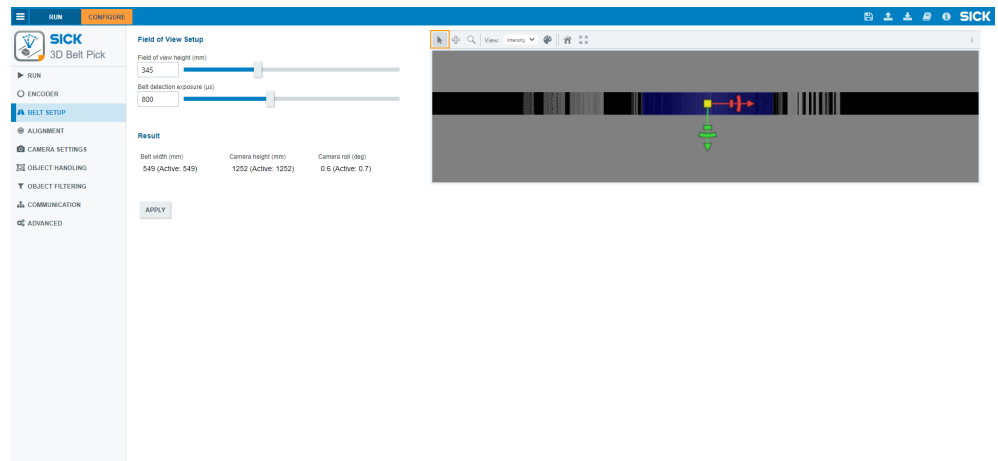

Figure 14: Setting up field of view
- Use the **Select** tool (indicated by an orange box in figure 14) to adjust the blue region so that it displays the region where the conveyor belt is. The camera will automatically measure the camera height within this region.